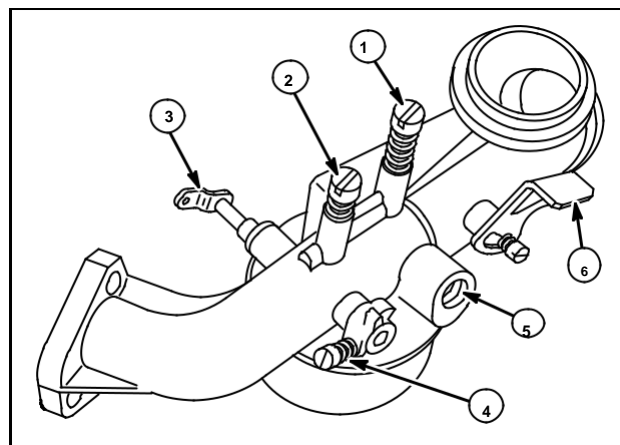

Fig. 122
The small One-Piece Flo-Jet carburetor is illustrated in Fig. 122 and was used on early Model Series 170700. These are float feed carburetors with adjustable orifice main jet needle valve and adjustable idle circuit needle valve located on top of carburetor. Main jet needle valve (1) Idle mixture needle valve (2) Throttle lever (3) Idle speed adjusting screw (4) Fuel inlet (5) Choke lever (6) Fig. 122